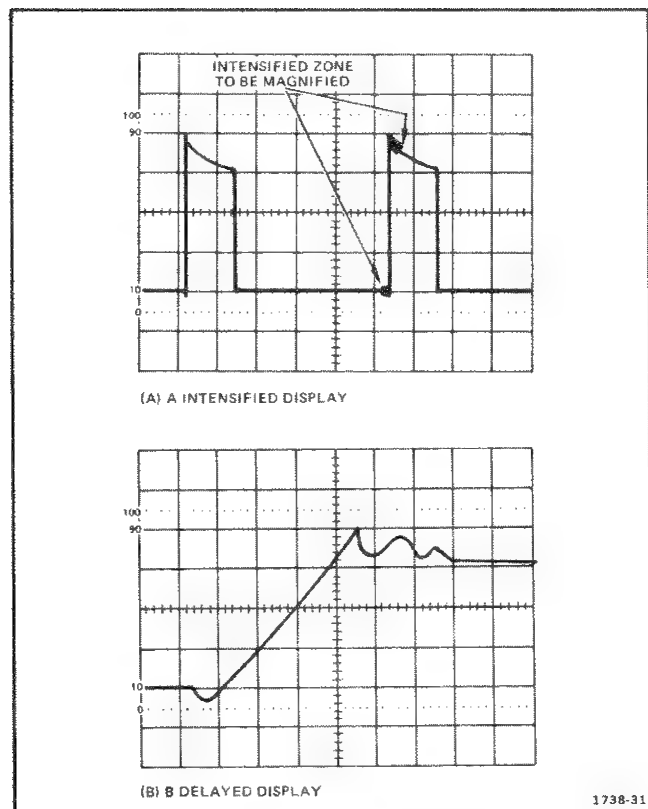

Fig. 24. Delayed sweep magnification.
6. Set the B TIME/DIV switch to a setting which intensifies the full portion to be magnified. The start of the intensified zone remains as positioned above (see Fig. 24).
7. Set the HORIZ DISPLAY switch to B DLY'D to magnify the portion of A sweep that is intensified (see Fig. 24).